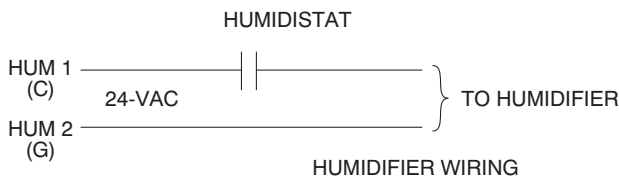
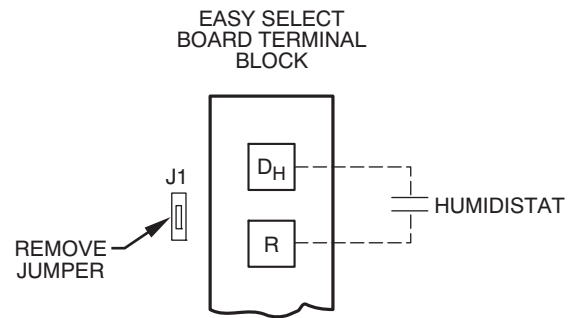

Fig. 19 - Humidifier Wiring
Fig. 20 - Humidistat Wiring for De-Humidify Mode
Easy Select Board terminals HUM1 and HUM2 are provided for direct connection to the low-voltage control of a humidifier through a standard humidistat. (See Fig. 19.) These terminals are energized with 24vac when G thermostat signal is present. (See Fig. 20.) Alternately, the 24-vac signal may be sourced from the W and C terminal block connections when electric heaters are used as primary heating source. When using a Thermidistat™ Control, Zone Perfect Plus or Comfort Zone II, the 24-vac signal may be sourced directly from the Thermidistat HUM terminal. (See Fig. 9, 10, 11, and 12.)
Latent capacities for systems using the FV4C Fan Coil are better than average systems. If increased latent capacity is an application requirement, the field wiring terminal block provides connection terminals for use of a standard humidistat. The FV4C Fan Coil will detect the humidistat contacts opening on increasing humidity and reduce its airflow to approximately 80% of nominal cooling mode airflow. This reduction will increase the system latent capacity until the humidity falls to a level which causes the humidistat to close its contacts. When the contacts close, the airflow will return to 100% of the selected cooling airflow. To activate this mode, remove Jumper J1 and wire in a standard humidistat. (See Fig. 20.)
5. Verify low-voltage control signals to motor. The motor receives its control signals through the 12-pin plug (PL-1) on Easy Select Board and 16-pin plug on wiring harness. (See Troubleshooting Example.) The combinations of pins energized will determine motor speed. (See Fig. 20.) See Table 7 for circuit board, low-voltage screw terminals energized and for voltage present at each pin on 12-pin plug (PL-1). See Table 7 for pin number on 16-pin plug which should have voltage when Easy Select Board screw terminals have 24vac.